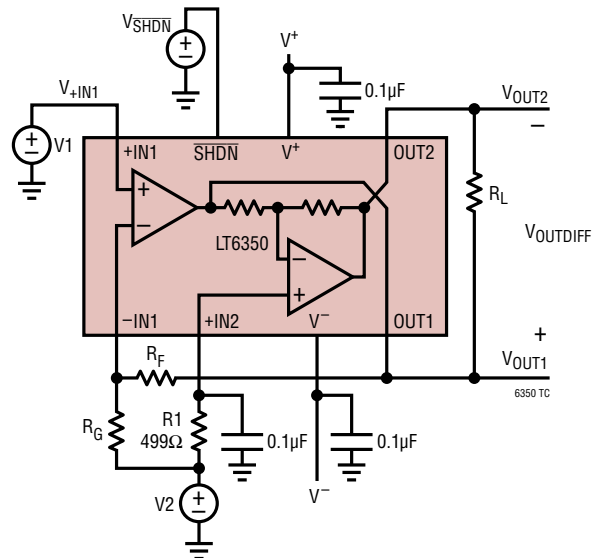

Figure 1. DC Test Circuit.
**ELECTRICAL CHARACTERISTICS** The ● denotes specifications that apply over the full specified temperature range, otherwise specifications are at  $T_A = 25^\circ\text{C}$ . Unless noted otherwise,  $V^+ = 5\text{V}$ ,  $V^- = 0\text{V}$ ,  $V_{+IN1} = V_2 = \text{Mid-Supply}$ ,  $V_{\text{SHDN}} = V^+$ ,  $R_L = \text{OPEN}$ ,  $R_F = \text{SHORT}$ ,  $R_G = \text{OPEN}$ .  $V_S$  is defined as  $(V^+ - V^-)$ .  $V_{\text{OUTCM}}$  is defined as  $(V_{\text{OUT1}} + V_{\text{OUT2}})/2$ .  $V_{\text{OUTDIFF}}$  is defined as  $(V_{\text{OUT1}} - V_{\text{OUT2}})$ . See Figure 1.
**Note 6:**  $V_{\text{OS2}}$  is measured as the total output common mode voltage offset (error between output common mode and voltage at V2).  $V_{\text{OS2}}$  includes the combined effects of op amp 2's voltage offset,  $I_B$ ,  $I_{\text{OS}}$  and mismatch between on-chip resistors and the  $499\Omega$  external resistor, R1 (See Figure 1).
$T_A = 25^\circ\text{C}$ ,  $V^+ = 5\text{V}$ ,  $V^- = 0\text{V}$ ,  $V_{+IN1} = V_2 = \text{Mid-Supply}$ ,  $V_{SHDN} = V^+$ ,  $R_F = \text{SHORT}$ ,  $R_G = \text{OPEN}$ ,  $R_L = \text{OPEN}$ . See Figure 1.
$T_A = 25^\circ\text{C}$ ,  $V^+ = 5\text{V}$ ,  $V^- = 0\text{V}$ ,  $V_{+IN1} = V_2 = \text{Mid-Supply}$ ,  $V_{\text{SHDN}} = V^+$ ,  $R_F = \text{SHORT}$ ,  $R_G = \text{OPEN}$ ,  $R_L = \text{OPEN}$ . See Figure 1.